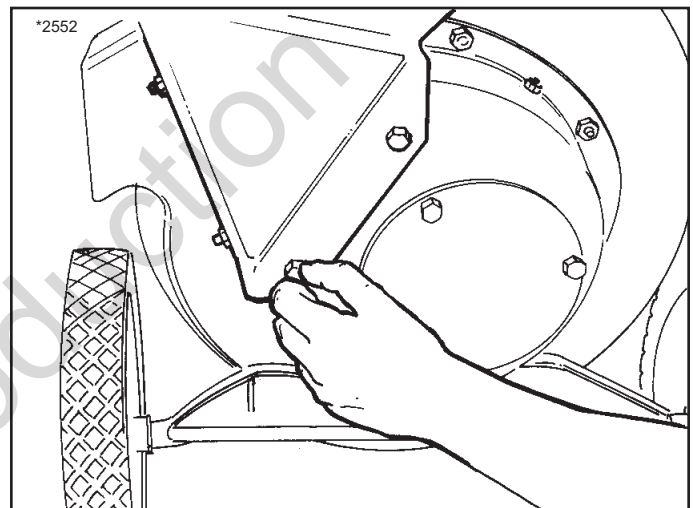

Figure 18. Removing Shredder Hopper
2. See Figure 18. Detach the shredder hopper from the rotor housing, leaving the liner and handle in place on the hopper.